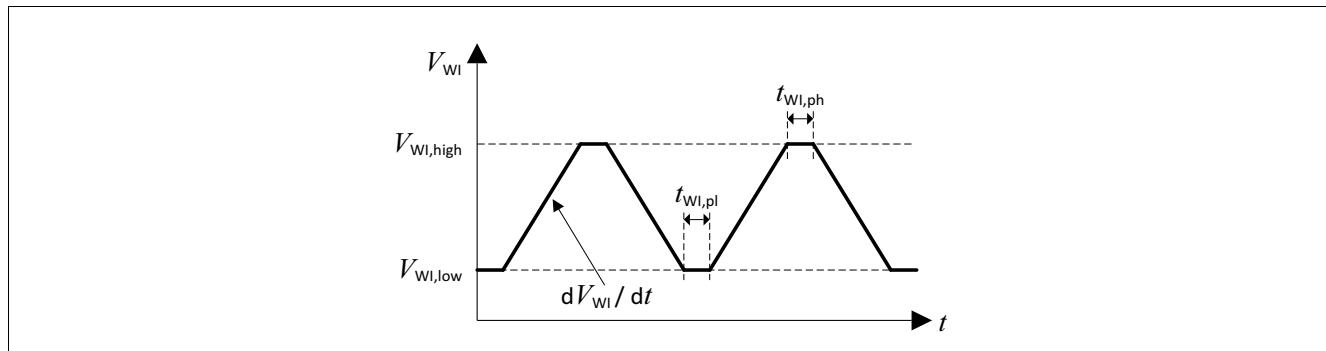

Figure 9 Test pulses watchdog input WI
The watchdog is triggered by a falling edge at the watchdog input pin “WI”. The amplitude and slope of this signal has to comply with the specification (Table “Watchdog input WI” on Page 26). For details regarding test pulses, see Figure 9 “Test pulses watchdog input WI” on Page 25.
2) For details on applied test pulse, see Figure 9